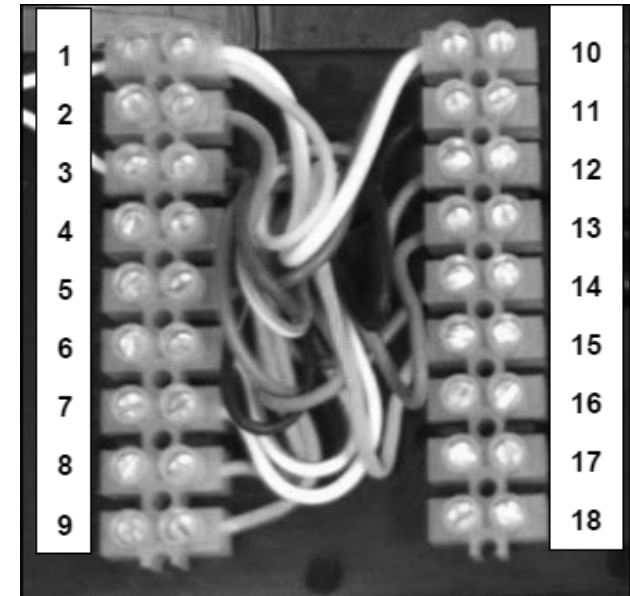

Figure 5-2
- Access the electrical terminals and use the available contacts (Table 5-1 and fig. 5-2).